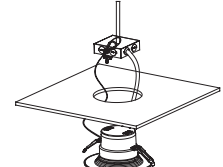

Fig. 8
- Step 3:** Insert lamp conduit into the J-box and wire to power source (black to hot, white to neutral, violet to 0-10V dimming positive, gray to 0-10V dimming negative) (Fig. 8). Reattach J-box cover when done;